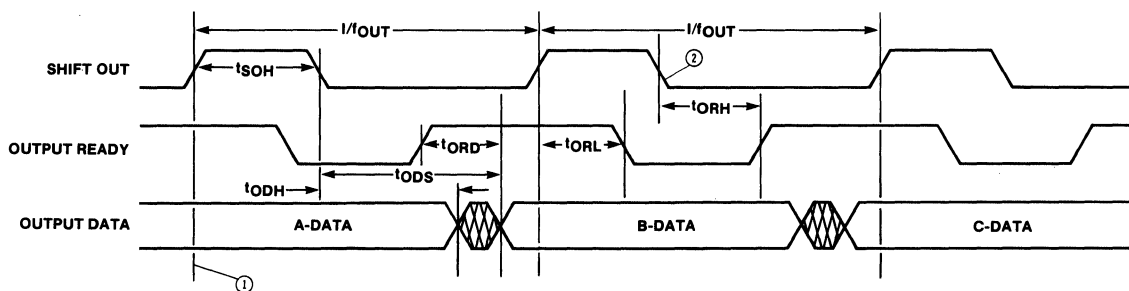

Figure 5. Output Timing
- ① Input Ready HIGH indicates space is available and a Shift-In pulse may be applied.
- ② Input Data is loaded into the first word. The Data from the first word is released for "fall-through" to second word.
- ③ Input Ready goes LOW indicating the first word is full.
- ④ Shift-In going LOW allows Input Ready to sense the status of first word. The first word is now empty as indicated by Input Ready HIGH.
- ⑤ If the second word is already full then the data remains at the first word. Since the FIFO is now full Input Ready remains low.
- NOTE: Shift-In pulses applied while Input Ready is LOW will be ignored (See Figure 5).